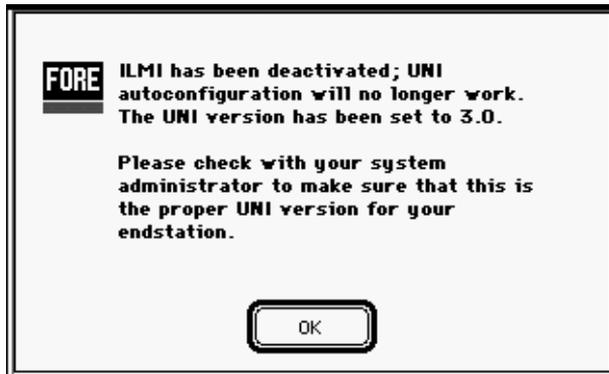

Figure 4.17 - ILMI Deactivation Alert Screen
3. Specify whether or not to use **ILMI** address registration. If you choose not to use **ILMI** registration (which provides automatic configuration) and want to manually type the ATM address supplied by your system administrator, click on the **Disable ILMI** button. The prompt shown in Figure 4.17 appears, if you have selected the **Auto-Configure** option for **UNI**.